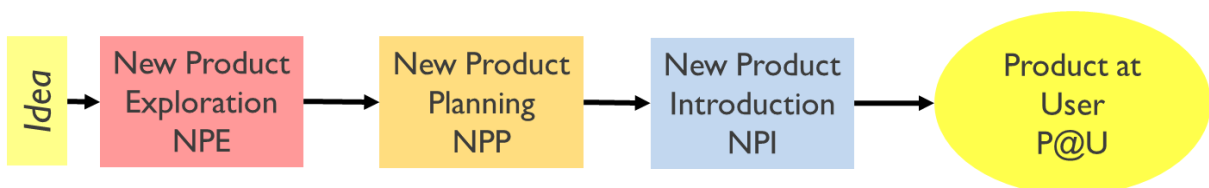

Figure 1: From idea to customer: three innovation stages.
- 2.2. This guideline covers New Product Exploration starting from a set of ideas regarding business opportunities, stakeholder needs and/or potential product solutions, until the delivery of a validated concept upon which product development planning can be based, see Fig. 1 and EDM-P-200 for background.